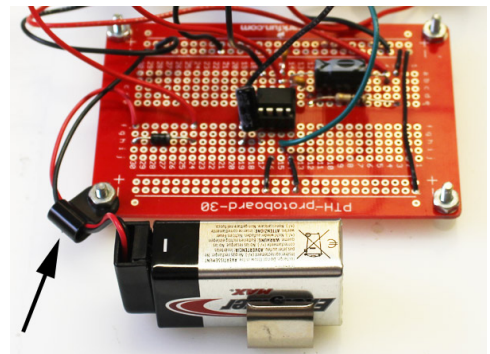

Figure 38
38. Before you install the 9 volt battery, make sure both on/off switches are in the off position. To protect the battery wires, slip a small, black P clamp over the wires as seen in Figure 38 at the arrow. Attach the clamp to board with the machine screw at the corner of board. Attach a fresh 9 volt battery to the battery strap and insert battery in the holding clip. Your amplifier is now ready for use.